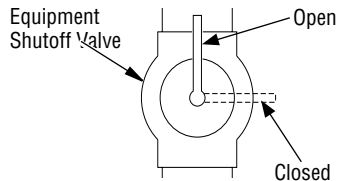

Figure 15 - Equipment Shutoff Valve
1. Close equipment shutoff valve (see **Figure 15**).